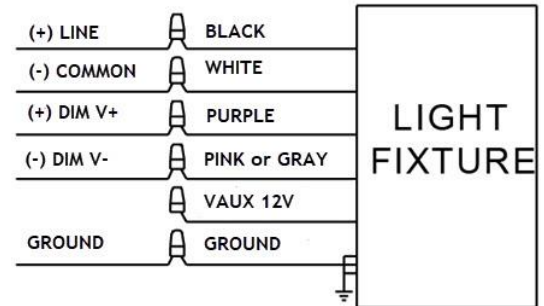

Fig. 1
2. Remove the old housing for lamp. (Fig. 1)